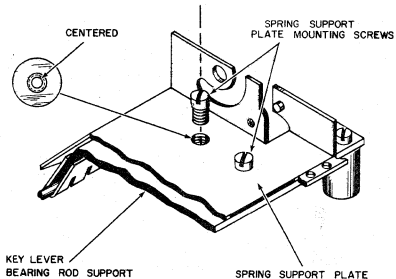

Figure 63
1. Set the spring support plate so the mounting screws are centrally located in their mounting holes (Figure 63). The plate carries the ribbon feed and check pawl assemblies, determining their position. Tighten the screws.